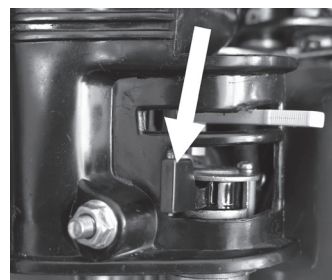

Fig. 11
2. Close the fuel supply by setting the fuel tap lever to the left (Fig. 11).